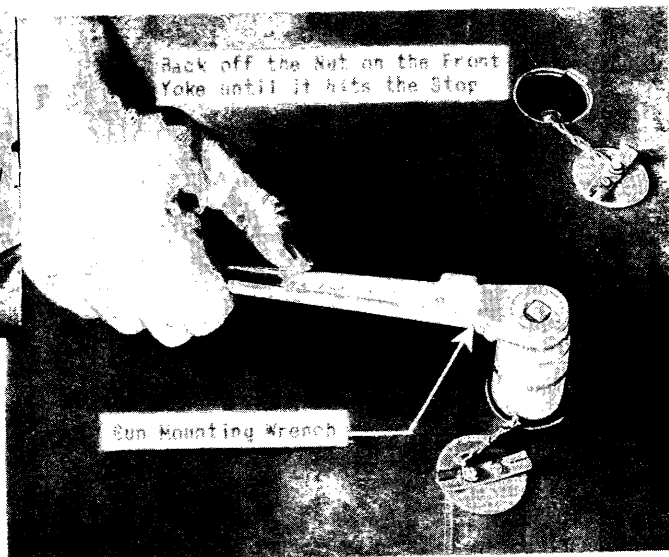
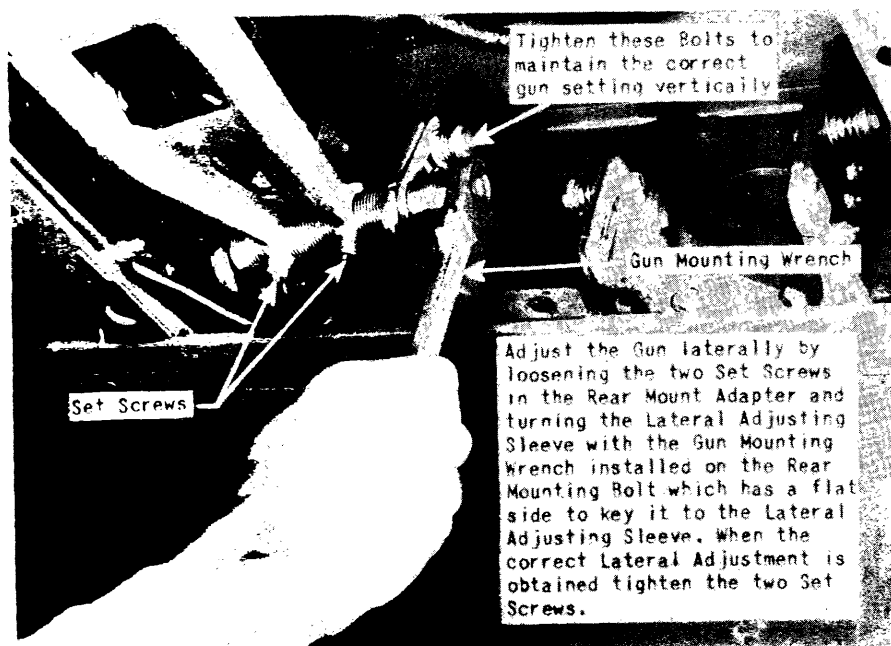

Figure 23 - Yoke Nut Adjustment
Figure 24 - Adjusting Gun Laterally
to the left and right No. 1 and No. 2 guns by inserting the attaching pins and locking with safety pins. The feed chutes on No. 3 guns, right and left, are not attached to the gun until after the guns are bore-sighted. Next tighten the front yoke nut by means of the special socket wrench inserted through the nut port in the top surface of the wing. (See figure 23.) Screw the three retainer washer screws into the yoke bolts so that the yoke nuts can never be turned entirely off the bolt allowing the gun to drop out of the wing compartment. Bore-sight the gun. Bore-sighting the gun may be accomplished by loosening the locking elements at the serrated plates so that the gun can be moved in a vertical direction. Loosen the setscrews in the adapter securing the lateral adjusting threaded sleeve. Then by moving the gun up or down, grasping it with the hands, vertical adjustments may be attained. Lateral adjustment may be made by turning the rear mounting bolt which has a flat side to key it to the lateral adjusting sleeve. After these adjustments are made the locking elements should be properly secured. (See figure 24.) The front mounting bolt should then be tightened using the special socket wrench (87-69-737) provided for gun mounting. Refer to section IV, 2.(a) through (i) for complete information on sight adjustment.
(3) Detach the feed chutes from No. 1 and No. 2 guns and the link chute from No. 3 gun.
(4) Working through the yoke nut port on the top surface of the wing unscrew the yoke nut with the special socket wrench to lower the front of the gun as far as it will go. (See figure 23.)
(5) Loosen the front mounting bolt slightly with the special gun mounting wrench to allow the front adapter to pivot on the yoke.